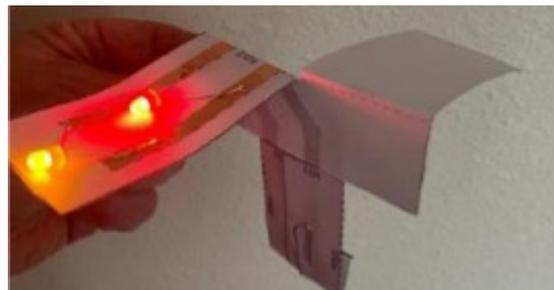

Figure 8. The completed helicopter is shown.
14. Fold the two blades in opposite directions along the dashed lines. For the blade that has copper tape on it, make sure the tape is facing upward. The blades should look like the ones shown in *Figure 8*.